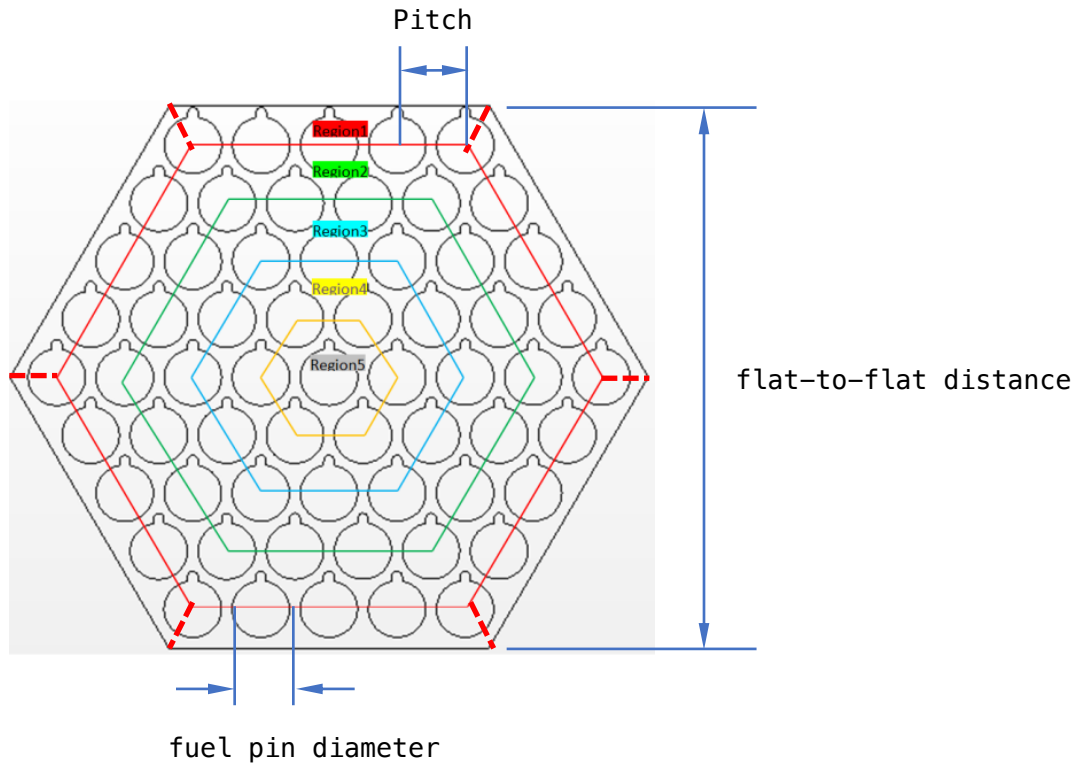

Figure 4.9: Sketch of the regions in the multi-channel model.
To improve the heat transfer between the duct wall and coolant flow, a multi-channel rod bundle model is developed in SAM to account for the temperature differences between the center region and the edge region of the coolant channel in a fuel assembly. Similar approach has been proposed in ENERGY (Yang and Joo, 1999), SAS4A/SASSYS-1 (Fanning 2012), as well as the multi-region porous medium model reported by Yu et al. (2015). The whole fuel assembly can be divided into a number of regions, as shown in figure 4.9. It is quite remarkable that the volumetric heat flux in region 1 is significantly less than that in other regions, based on analytical calculations. Each inner region is modeled as an average core-channel (i.e., a 1-D coolant channel and an average fuel pin). The edge region can be modeled as one core-channel or six core-channels to account for the differences in heat transfer with each side of the duct wall. This zoning strategy is also inspired from the authors' previous experiences in the CFD simulations of the triangle-lattice pin bundles. As shown in the Hu and Yu (2016), large temperature gradient were observed in the coolant region near the duct wall, but the temperature distribution elsewhere is very uniform except the hot spots due to the wire-wrap effects.
Number of zones (regions) of the MultiChannelRodBundle. For example, `n_zones = 5` in figure 4.9. Note that it is different than the same parameter defined in FuelAssembly (see section 4.3.8), which splits the fuel assembly in the axial direction.
Number of fuel pin rings of the MultiChannelRodBundle. As shown in figure 4.9, it is also the same as the number of fuel pins on the side of MultiChannelRodBundle. In figure 4.9, `n_side = 5`.
Number of core-channels to be modeled in this MultiChannelRodBundle component. It has to be either the same as `n_zones`, such that one core-channel for each zone, or equal to `n_zones+5`, such that the out most zone is modeled as six (6) core-channels and one core-channel for each inner zone. For example, as shown in figure 4.9, if `n_channel = 5`, one core-channel will be created for each zone (region) 1 to 5; however, if `n_channel = 10`, one core-channel will be created for each zone (region) 2 to 5, while 6 core-channels are to be created for zone (region) 1. One can easily figure out that MultiChannelRodBundle currently only supports a hexagonal fuel bundles such as the one shown in figure 4.9.
This parameter specifies the flat-to-flat distance of the assembly, see figure 4.9.
The fuel pin diameter, same for all `PBCoreChannels`, see figure 4.9.
The distance between fuel pin centers, see figure 4.9.